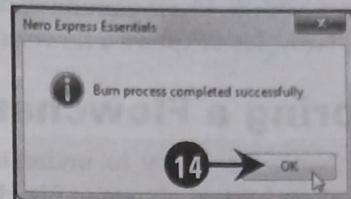

Fig.HD-8.34
14. Click the OK button to close the Nero Express Essentials dialog box, as shown in Fig.HD-8.34: